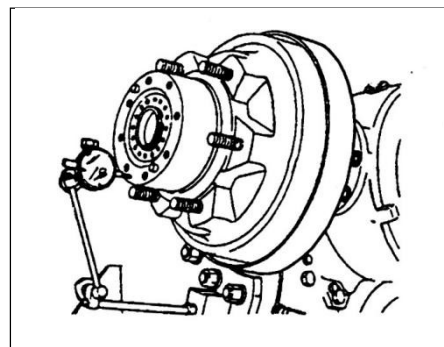

Fig.1-7
- (8) Measure axial play of wheel hub to see if it is within specification. Axial play is less than 0.08mm (refer to Fig.1-7) .